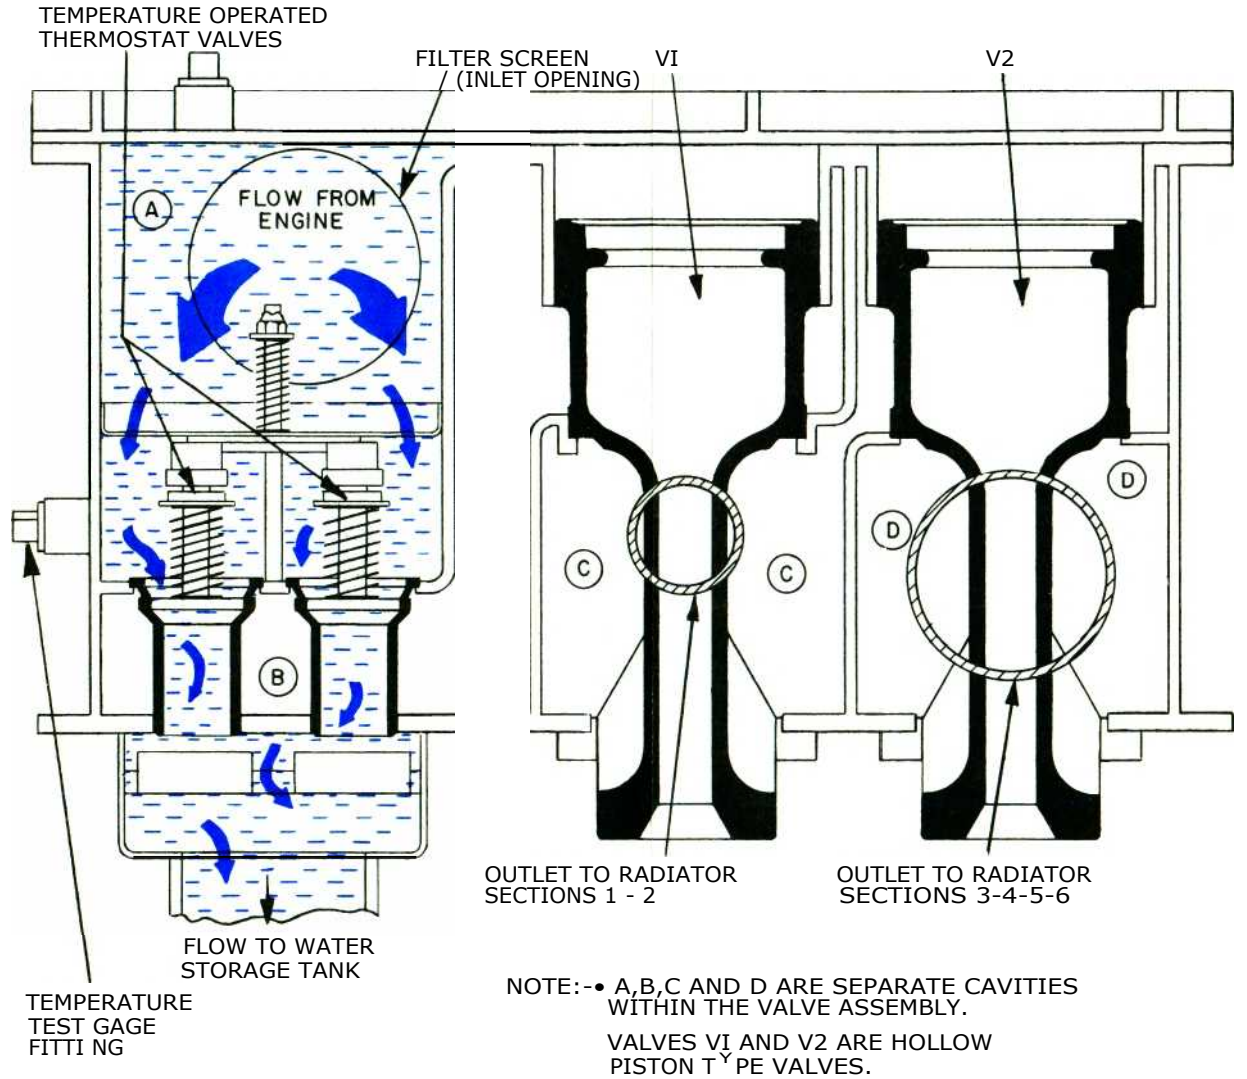

Fig. 6-2. Flow-control valve operation
Conditions of flow through the radiator are controlled by the two "snap action" piston-type valves, V1 and V2. (See Fig. 6-2.) Vertically mounted within the case, the valves each consist of an upper and a lower piston connected by a stem. These valves are identical and interchangeable. The center portion of each valve is hollow to permit water which leaks past the upper piston to return through the valves to the storage tank; thus, leakage has no effect on the operation of the system. To assure accurate operation, the weight of each valve is held within close limits during manufacture.
1. When minimum engine cooling is required (Fig. 6-2):
If cooling requirements should fall off, the thermostats will close the opening at the top of the skirt (and open the exit to the tank) sufficiently to lower the pressure in Chambers B and C to the point that gravity will pull valve V₁ down to closed position, resulting again in the situation depicted in Fig. 6-2. Air from the storage tank enters Chamber C to vent the radiator, permitting it to drain.